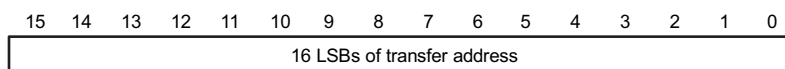
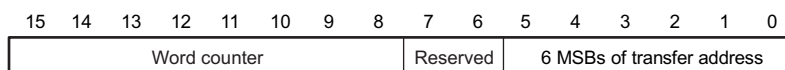

Figure 7-6. ADDR1 (at Data-Space Address 00 0838₁₆)
Figure 7-7. ADDRH (at Data-Space Address 00 0839₁₆)
2. Specify the start address of the buffer in ADDR1 and the six LSBs of ADDRH (see Figure 7-6 and Figure 7-7). The address in ADDR1 and ADDRH is called the transfer address.
- (a) If the number of words you want to log is between 1 and 256, specify a count value in the upper eight bits of ADDRH (see Figure 7-7). The form of the count value is 256-n, where n is the number of 32-bit words you want to log. As each word is transferred, both the transfer address and the count value are decremented.